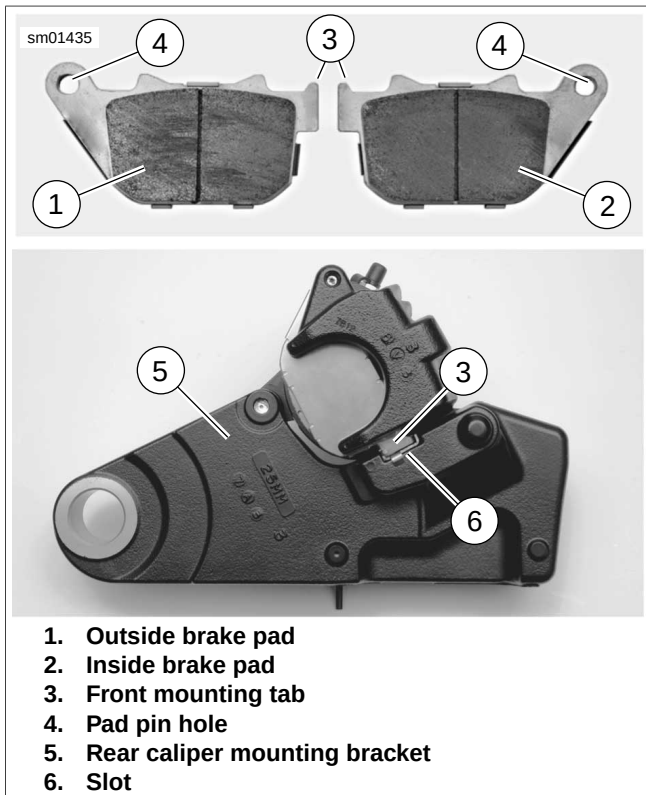

Figure 1-39. Rear Brake Pads
1. See Figure 1-39. Install **new** outside brake pad using the same orientation as pad previously removed. Make sure front mounting tab (3) is seated in slot (6) in caliper mounting bracket and pad friction material faces brake disc.
- See Figure 1-39. Pad front mounting tabs (3) must be fully seated in mounting bracket slot (6).